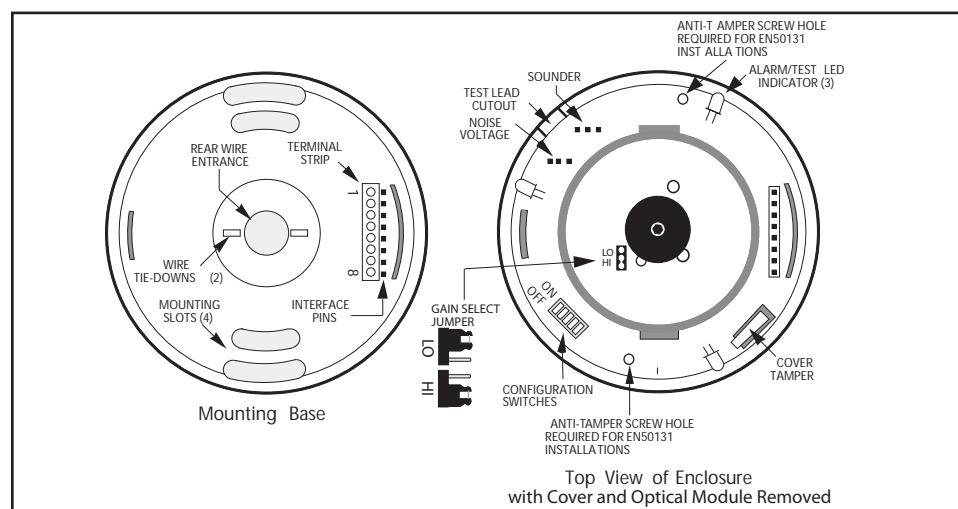

Figure 2.3: Overview
3. Route wiring as necessary to the rear of the base and through the center hole. Refer to *Figure 2.3*.
The DS938Z permits selection of the signal gain depending upon the environment to be protected. The gain select jumper is located under the optical module. Refer to *Figure 2.3*.